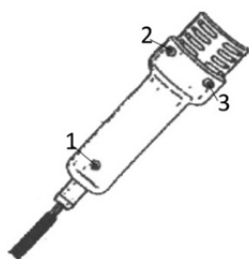

Figure 1
- Unscrew 3 screws used to fasten handle (Part 1,2,3 of Figure 1) to move conduit out.